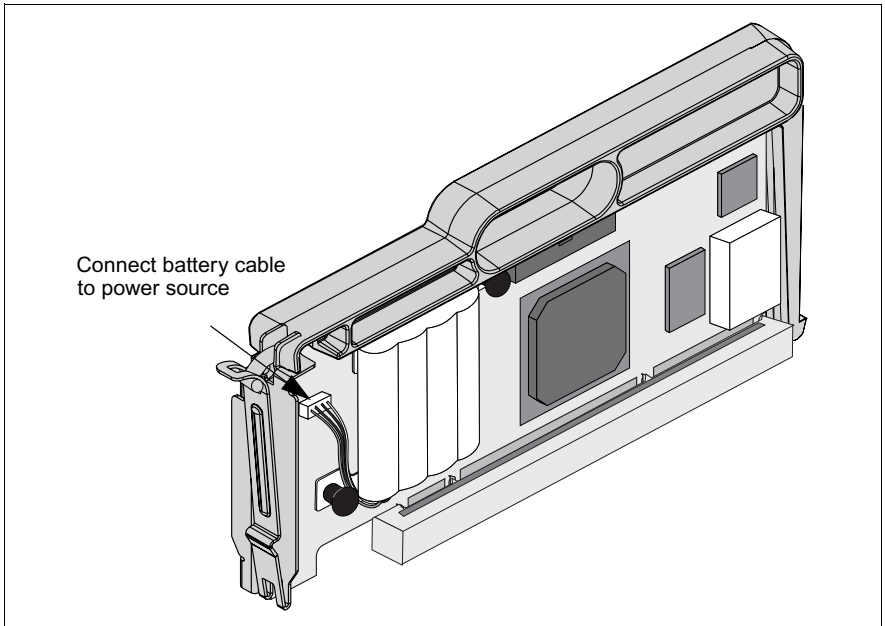

Figure 21: Connecting the battery cable to the power source
- ▶ Plug the battery cable into its power source on the adapter card (see figure 21).